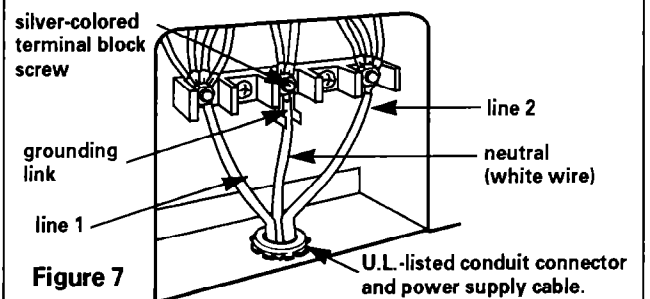

Figure 7
8. Use the brass terminal nuts attached to the terminal block cover to connect the neutral wire (white wire) to the silver-colored terminal screw on the terminal block. See Figure 7.
9. Connect the other two wires to outer terminal screws on the terminal block. See Figure 7.